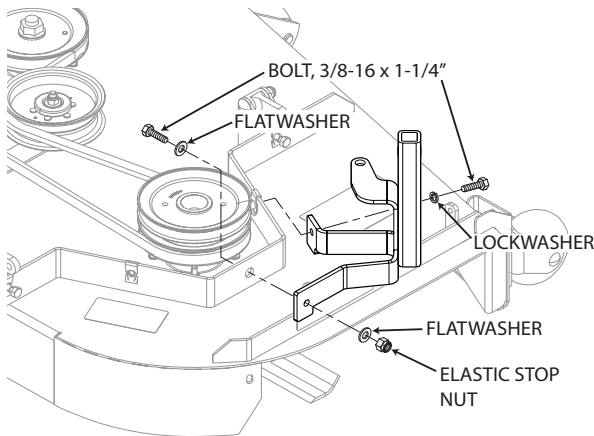

**Figure 2-6. Install Grass Catcher Spindle Pulley**
11. Install the grass catcher pulley onto the spindle assembly and secure. See Figure 2-6.